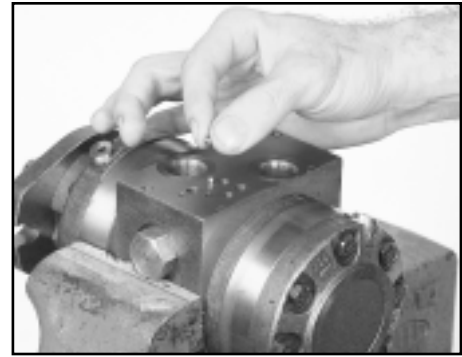

Figure A21
1. Place 4 check balls on their seats on the center block (15) SEE FIGURE A21